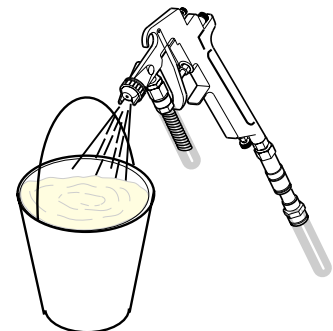

Fig.37
10) The product that is discharged during the unloading or the residues during washing **MUST NEVER** be dispersed on the ground but collected in suitable containers and disposed of in accordance with local regulations (fig.37).